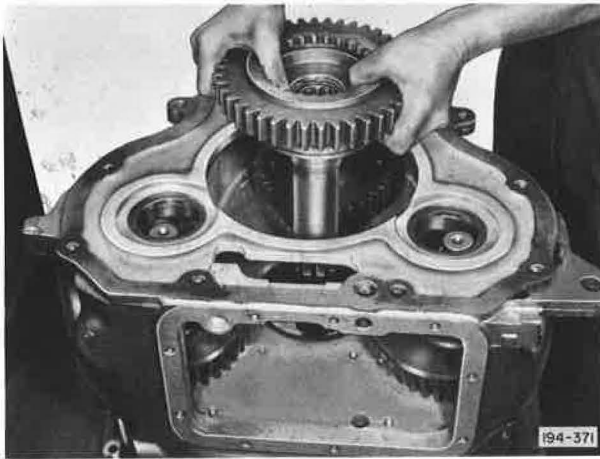

Figure 5-148. Removing Compound Main Driving Pinion
17. (TRDXL1070) Tap on spigot end of compound main driving pinion with a soft headed mallet thus driving pinion and bearing assembly rearward through case opening. Tilt the three countershaft assemblies to one side, then remove compound main driving pinion from inside of case. See Figure 5-148.